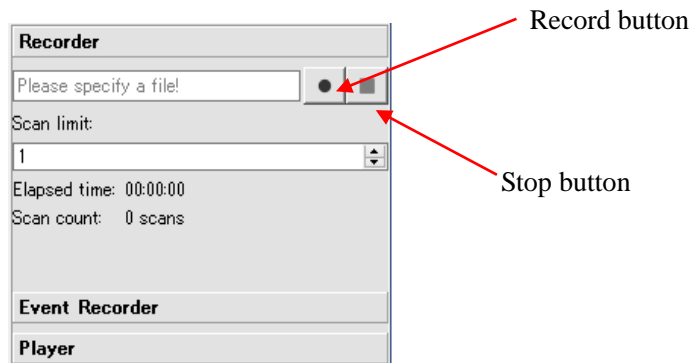

Figure 7-60(a) Data logging window
Enter the number of scans in the scan limit field (Figure 7-60(a)) and click the record button. Application will automatically create the file click save. Change the file name and folder if necessary. Data recording will start and stops automatically when the specified scan count is completed. Click the stop button to terminate the recording before reaching the scan count.
- e) Click “Event Recorder” to record the data just before and after the OSSD signal is triggered to OFF state (Figure 7-60(b)).